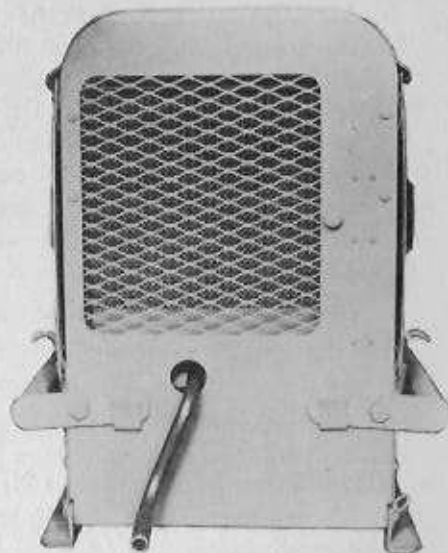

FIG. 13 STARTING CRANK
- Remove the starting crank from inside the housing and insert it through the hole below the radiator. See Fig. 13. Be sure that it engages positively with the crankshaft ratchet. Crank the engine with a strong, quick, upward pull. DO NOT SPIN OR PUSH DOWN ON THE CRANK. Repeat if necessary.